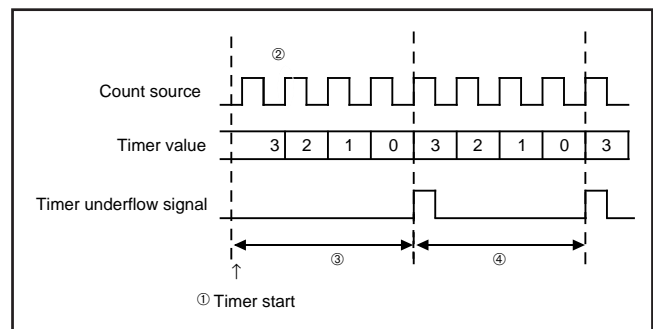

Fig. 14 Count start time and count time when operation starts (T1, T2)
Count starts from the rising edge ② in Fig. 14 after the first falling edge of the count source, after timer 1 and timer 2 operations start ① in Fig. 14. Time to first underflow ③ in Fig. 14 is different from time among next underflow ④ in Fig. 14 by the timing to start the timer and count source operations after count starts.